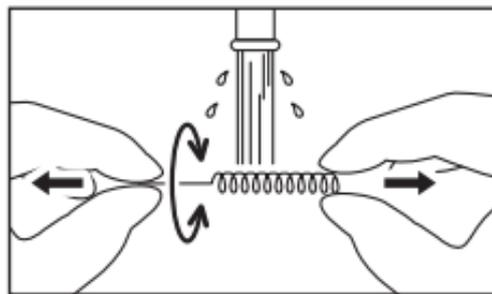

Fig. 27
- After using the Cleaning Wire, clean the wire for 15 seconds or more by pulling its both ends with your fingers while running water all around the wire (Fig. 27).